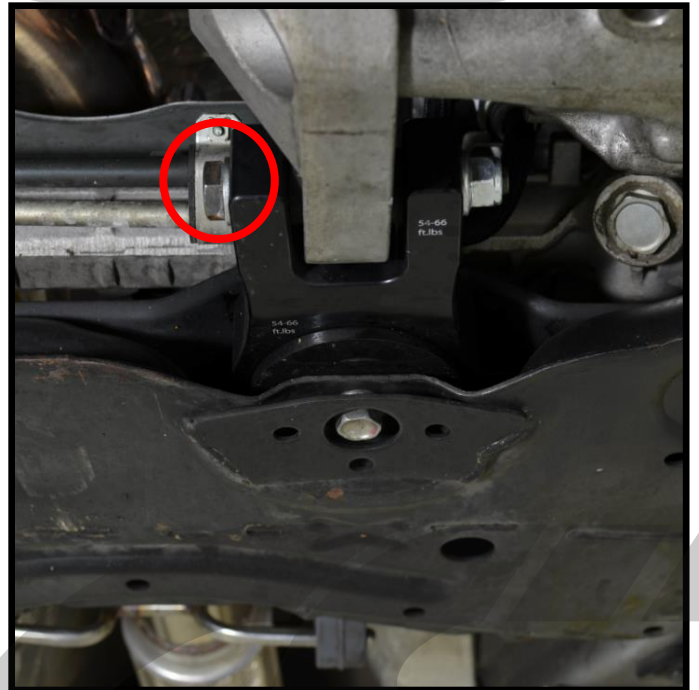

Figure 3h
- m) Reinstall the Motor mount bolt and torque it to 54-66ft.lbs. Shown by the red circle in **Figure 3h**.